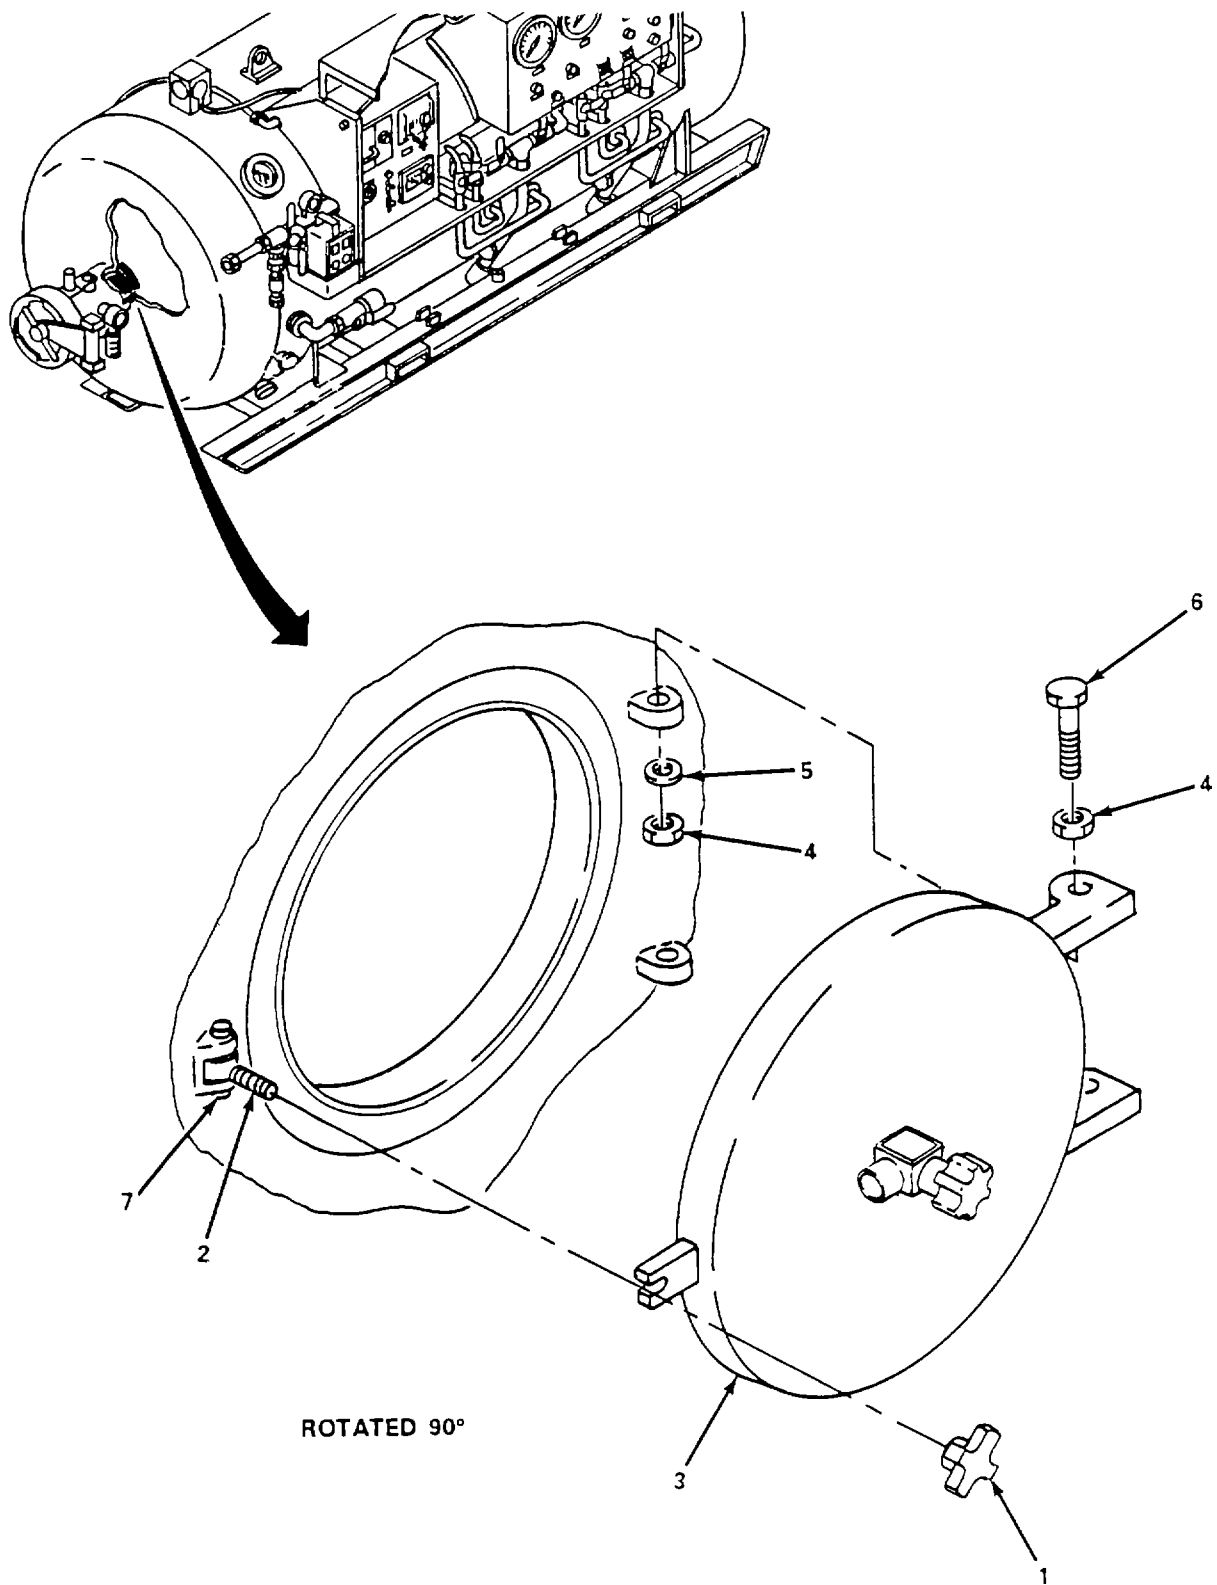

Figure 5-3. Medical Lock (M/L) Inner Door Assembly, Replace.
a. Replace. (figure 5-3)
- (1) Loosen knob (1) and rotate swing bolt (2) away from inner lock door (3).
- (2) Remove four nuts (4), two washers (5) and two allen head screws (6) and remove inner lock door (3).
- (3) Install inner lock door (3) and install two allen head screws (6), two washers (5), and four nuts (4) but do not tighten. Adjust nuts to allow doors to swivel on bolt hinge.
- (4) Rotate swing bolt (2) to hook through door bracket (7) and tighten knob (1).